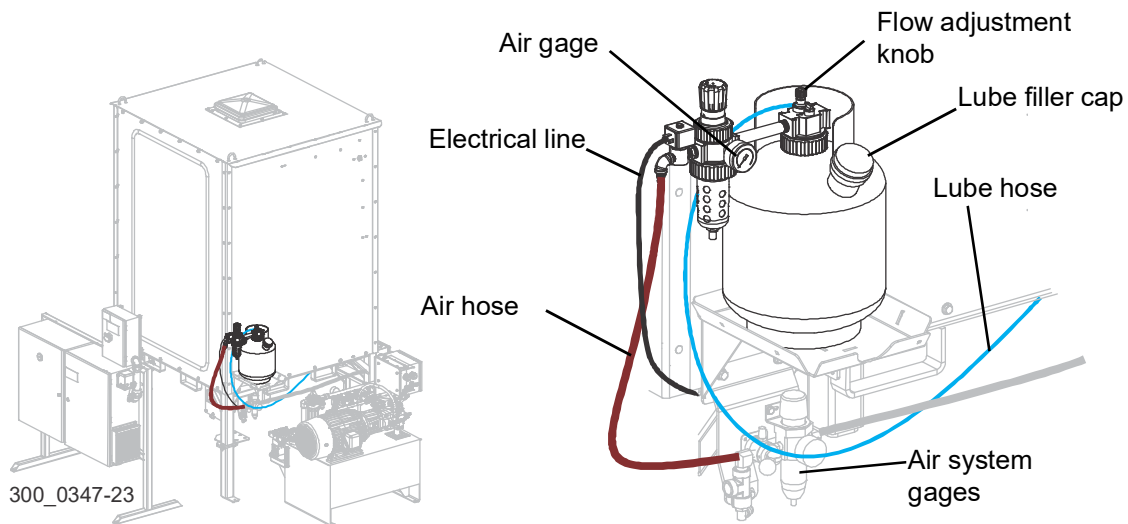

FIG. 3-20
The Bio-Lube system lubricates the blade and blade wheels only while the blade is running. Blade lubrication increases the blade life and performance See Fig. 3-20. .
1. Place the tank on the shelf, as shown in Figure 3-20.